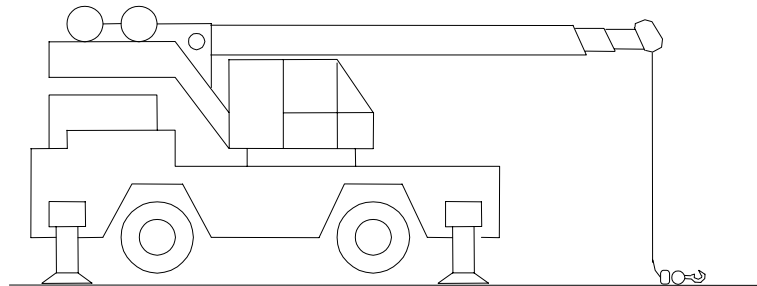

Figure 10
3. Put the main hook on the ground and let the lines go slack (Fig.10).